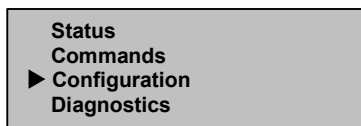

Figure 25: Main menu
1. On the main menu, scroll to Configuration. (See Figure 25.)